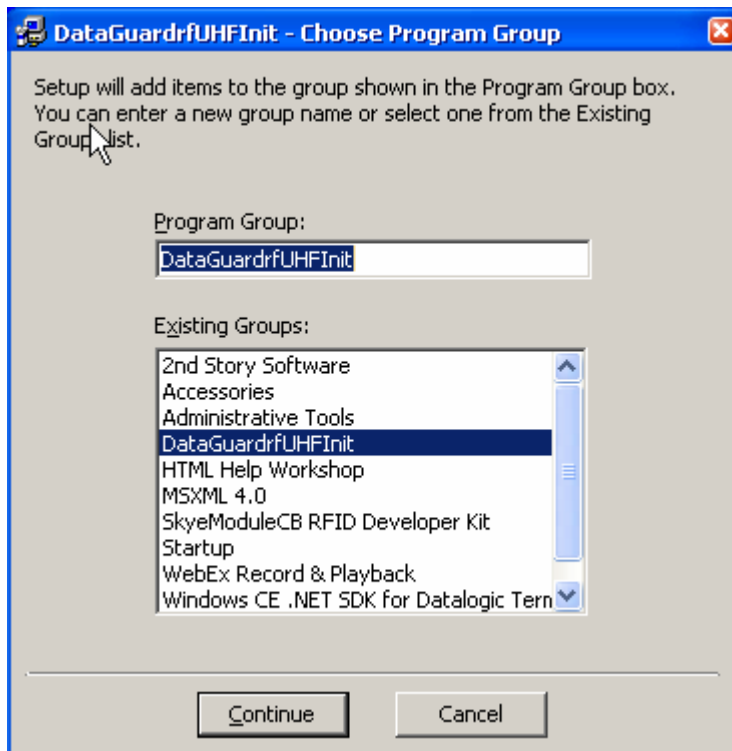

Figure 3
- I. Choose the program group you wish to include the software in and press the **Continue** button on the Choose Program Group Installation dialogue box (Figure 3) to begin the installation. When the installation is complete, click on the **OK** button to exit the installation set up of the software for the DataGuard rf UHF Automatic Label Programmer.